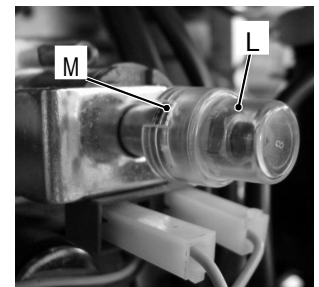

Figure 3
- 5) Remove the protection cap L (Figure 3) from the mechanical pressure adjustment components levering with a flat screwdriver in the slots M.